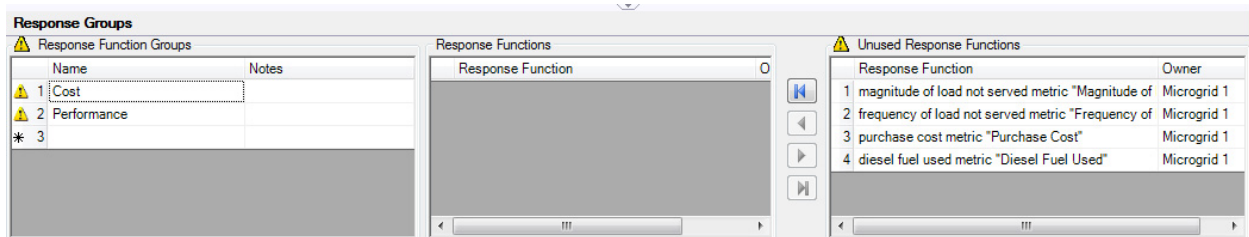
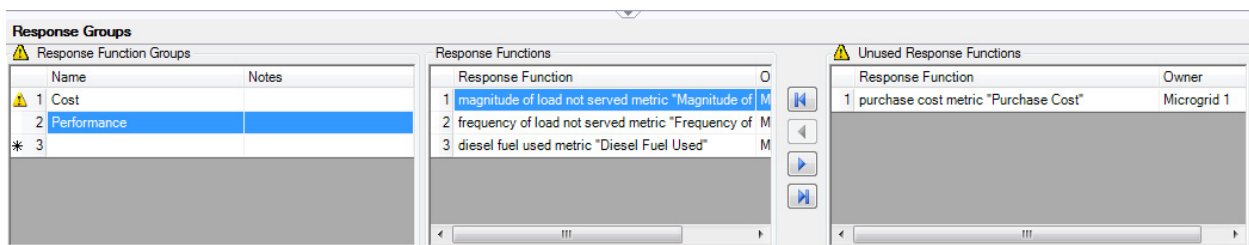

Figure 40. The "Cost" Response Function Group is empty. It contains no metrics.
Figure 41. The "Performance" Response Function Group contains three metrics.
3. Review the metrics in each group (Figure 40, Figure 41).